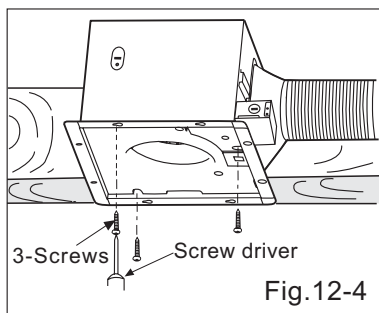

Fig.12-4
8. Secure the blower. (Fig.12-4) and plug connector to receptacle (Fig.11)